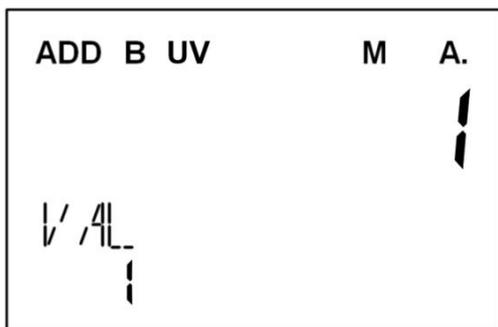
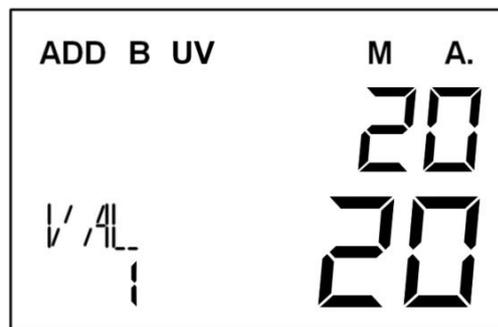

Figure 43
Figure 44
3) For example, you have \$1 and \$5 banknotes that need to be counted. After sorting, you can press the "Denom" button to adjust the denomination to "VAL 1", as shown in Figure 43 below. Then count the \$1 banknotes and the main screen will be as shown in Figure 44 below.